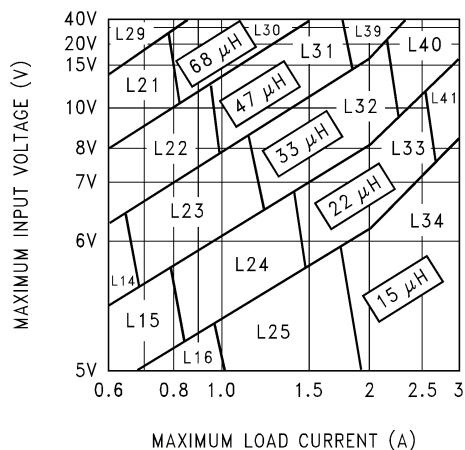
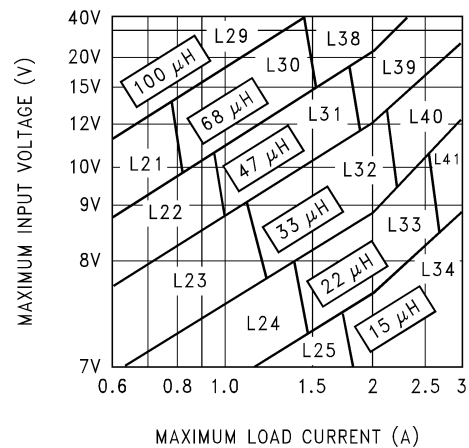

Figure 25. LM2599-3.3
Figure 26. LM2599-5.0
1. Inductor Selection (L1) A. Select the correct inductor value selection guide from Figure 25 , Figure 26 , or 6. (Output voltages of 3.3V, 5V, or 12V respectively.) For all other voltages, see the Design Procedure for the adjustable version. B. From the inductor value selection guide, identify the inductance region intersected by the Maximum Input Voltage line and the Maximum Load Current line. Each region is identified by an inductance value and an inductor code (LXX). C. Select an appropriate inductor from the four manufacturer's part numbers listed in Table 5 .	1. Inductor Selection (L1) A. Use the inductor selection guide for the 5V version shown in Figure 26 . B. From the inductor value selection guide shown in Figure 26 , the inductance region intersected by the 12V horizontal line and the 3A vertical line is 33 μ H, and the inductor code is L40. C. The inductance value required is 33 μ H. From the table in Table 5 , go to the L40 line and choose an inductor part number from any of the four manufacturers shown. (In most instance, both through hole and surface mount inductors are available.)